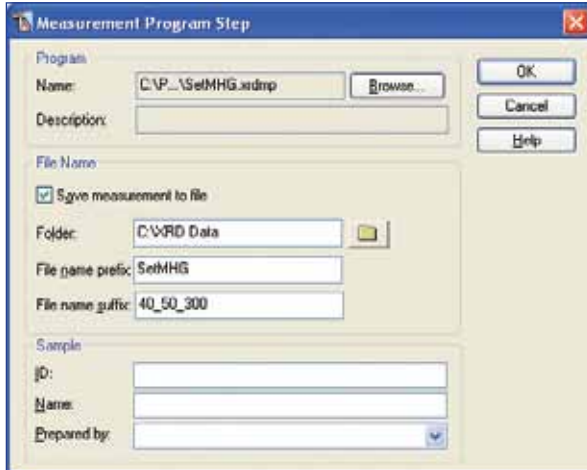

Figure 43. Measurement Program Step window with necessary specified non-ambient settings.
4. Create the desired batch program by selecting button *INSERT MEASUREMENT PROGRAM* and selecting the stationary program *SetMHG*, see Figure 43.
5. Enter in field *File name suffix* the desired values for the non-ambient settings with the following necessary convention: "*<T-value> <underscore> <humidity value> <underscore> <flow value>*", e.g. *40_50_300*, see Figure 43.